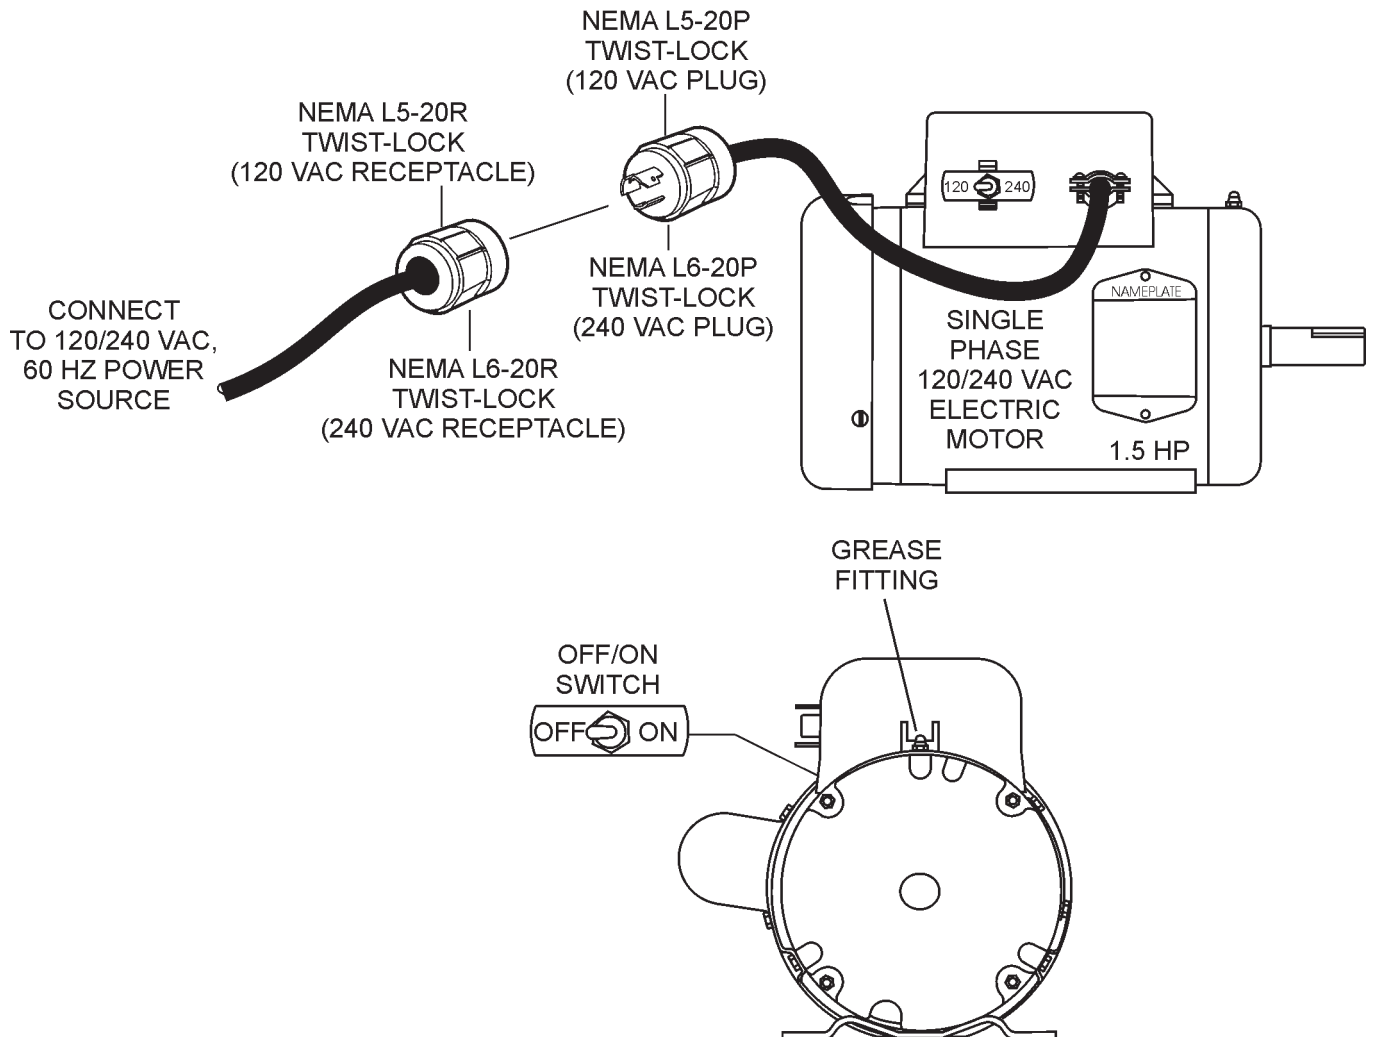

Figure 6. Electric Motor
A 12-inch electrical cable (Figure 6) is provided with the electrical motor for hookup to a power source.
- Important!**, when changing the input voltage to the electric motor from 120 to 240 VAC, the plug on the electric motor power cord must also be changed. See Table 6 and Figure 6.